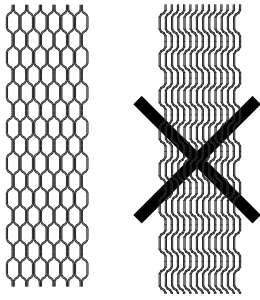

Fig.10
- When arranged correctly, the stacked plates form a honeycomb pattern (Fig.10).